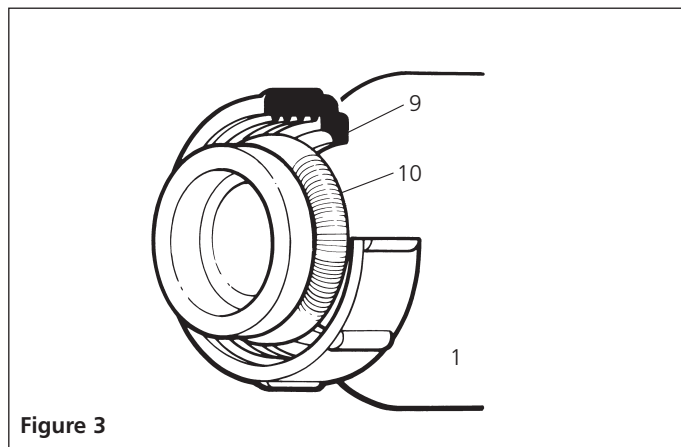

Figure 3
6. Place the grey retaining cap (9) over the butt joint of the condenser (1) with the screwthread facing outwards and retain in position with the circular spring (10) (see figure 3).